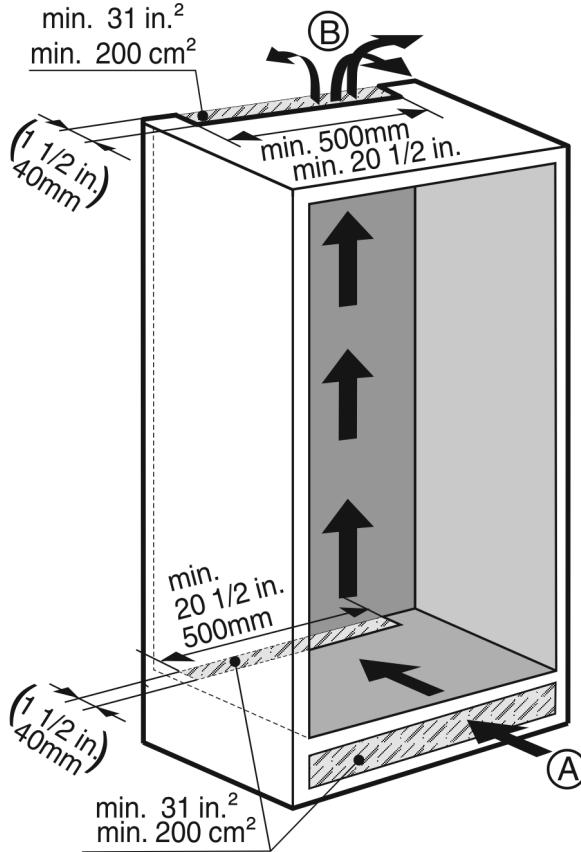

Fig. 6
- There must be an effective ventilation gap of at least 31 in2 (200 cm2) per appliance for the air inlet Fig. 6 (A) and the air outlet Fig. 6 (B).